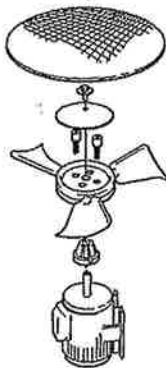

Figure 5b. Impeller wheel COOL 250-, 300- and 450-series
- 4 **Figure 5b. COOL 250, 300 and 450 series.**